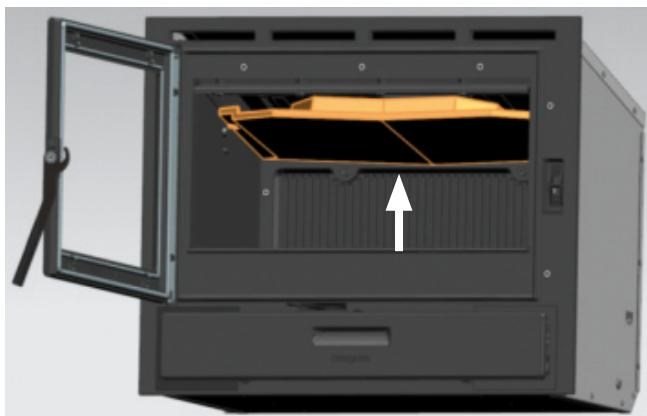

FIG. 4
- Slide the deflector up, lift one side more than the other until it can be pulled down between the two dollies and remove from the fireplace. (Fig. 4 - 5 - 6).